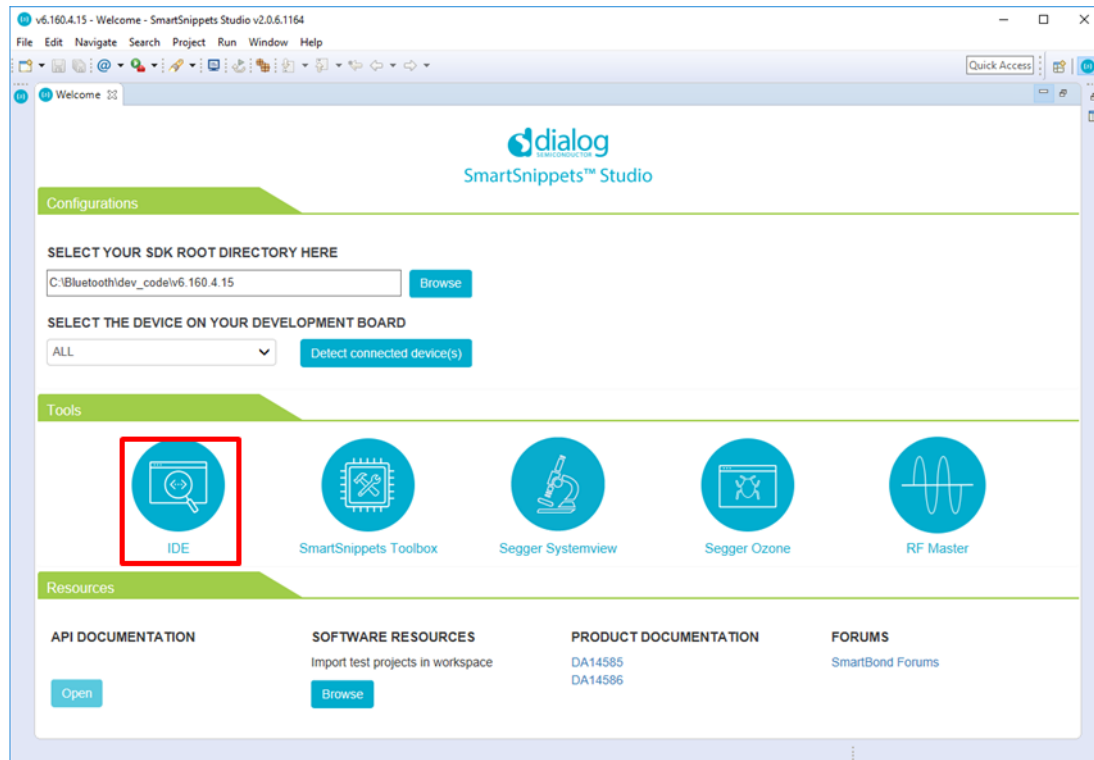

Figure 10: Starting the IDE
5. The SmartSnippets™ Studio environment will now appear. Users should click the IDE icon to start the Eclipse CDT IDE (Figure 10).